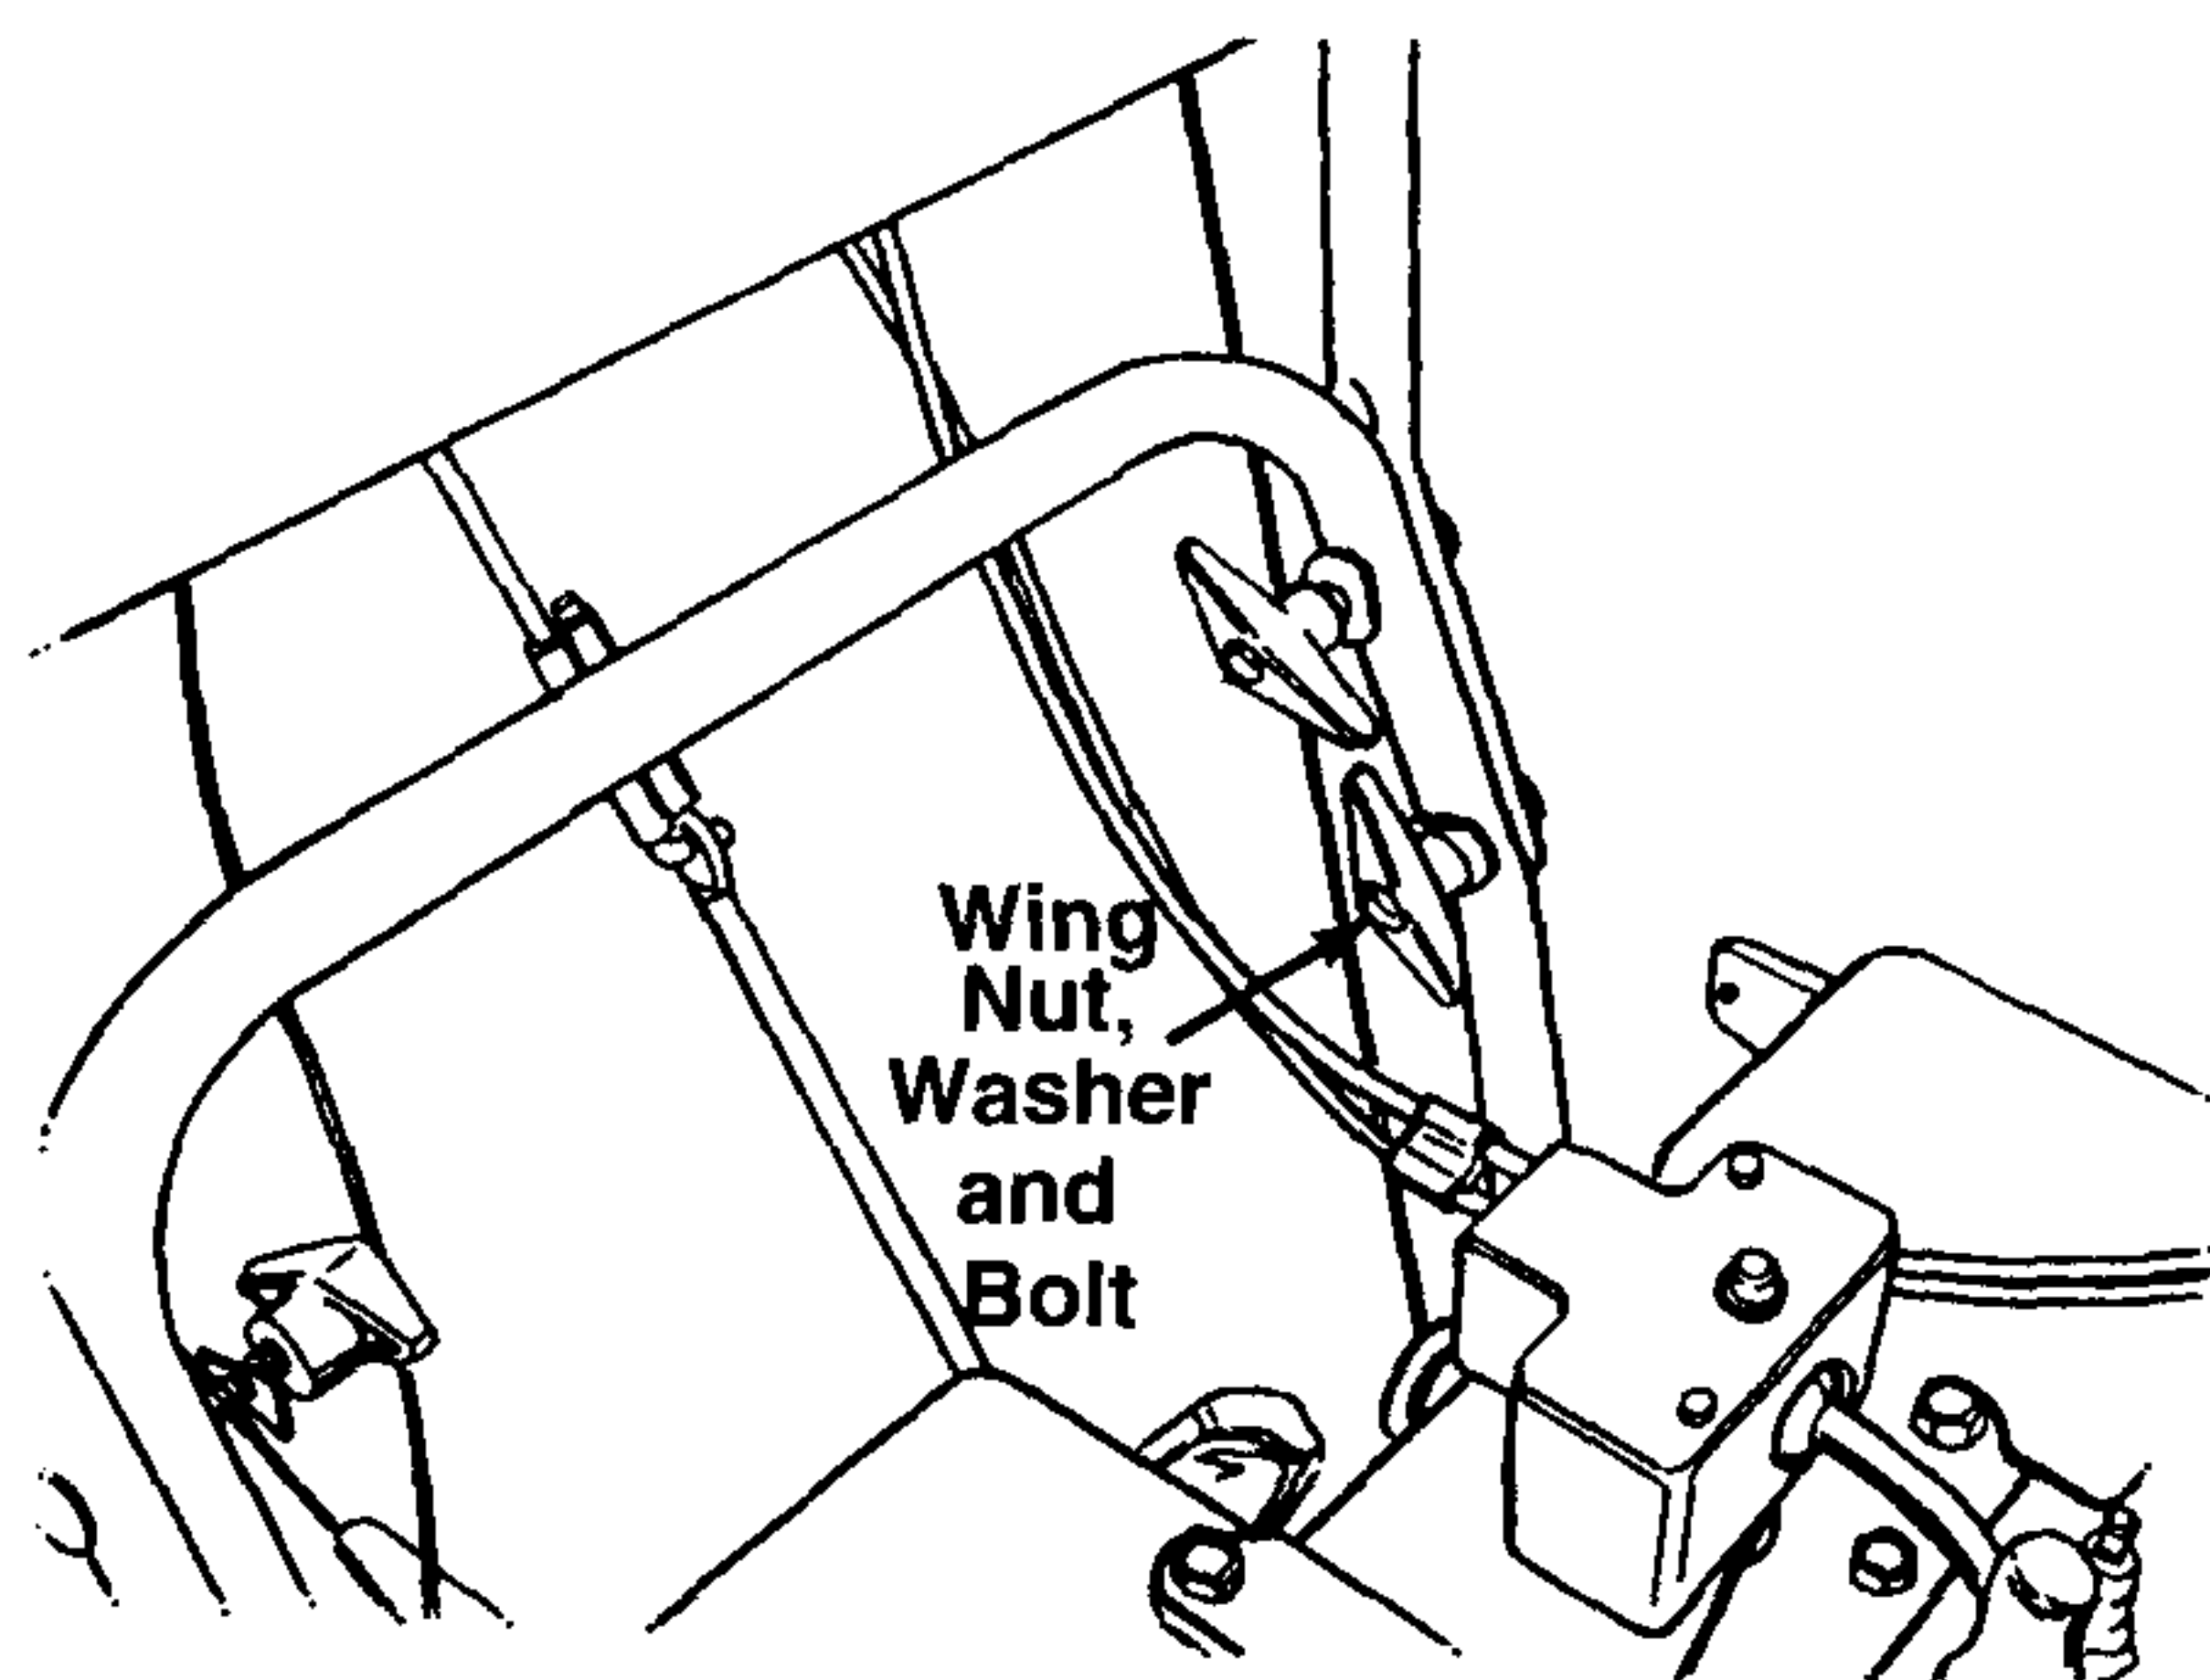

Figure 4
7. Raise the upper handle assembly until it locks over the lower handle. See Figure 3 and Figure 4.
8. Secure the upper handle and lower handle with the two plastic wing nuts, cupped washers and carriage bolts previously removed. See Figure 4.